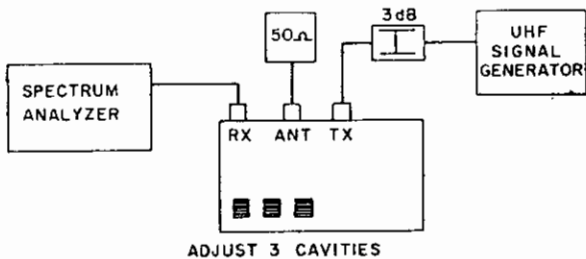

Fig. 6-7
- Adjust the tuning slugs of the three cavities associated with the receiver port for a dip of the transmitter power as observed on the analyzer. See Figure 6-7.